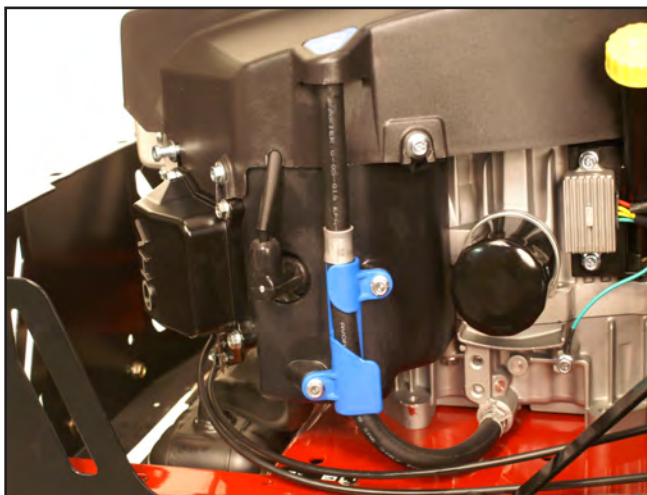

Figure 2
- While twisting, pull downward on the hose (Figure 2).